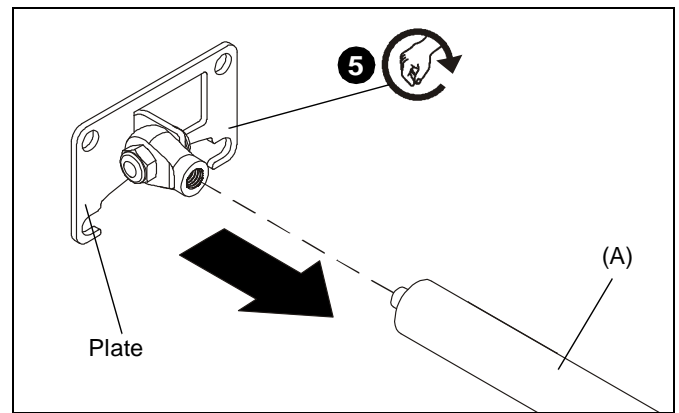

Figure 7
6. Replace plate removed in Step 1 to the end of gas spring assembly (A). (See Figure 7)